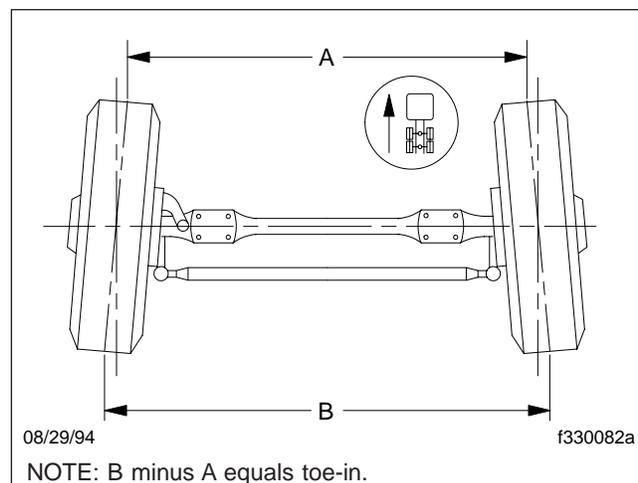

Fig. 3, Wheel Toe-In (Overhead View)
6. Place a trammel bar at the rear of the front tires; locate the trammel pointers at spindle height, and adjust the pointers to line up with the scribe lines on the center ribs of the front tires. See Fig. 3. Lock in place. Check that the scale is set on zero.